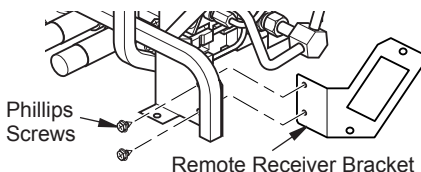

Figure 20 - Installing Remote Receiver Bracket
6. Install receiver bracket to base with Phillips screws provided in hardware kit as shown in Figure 20.